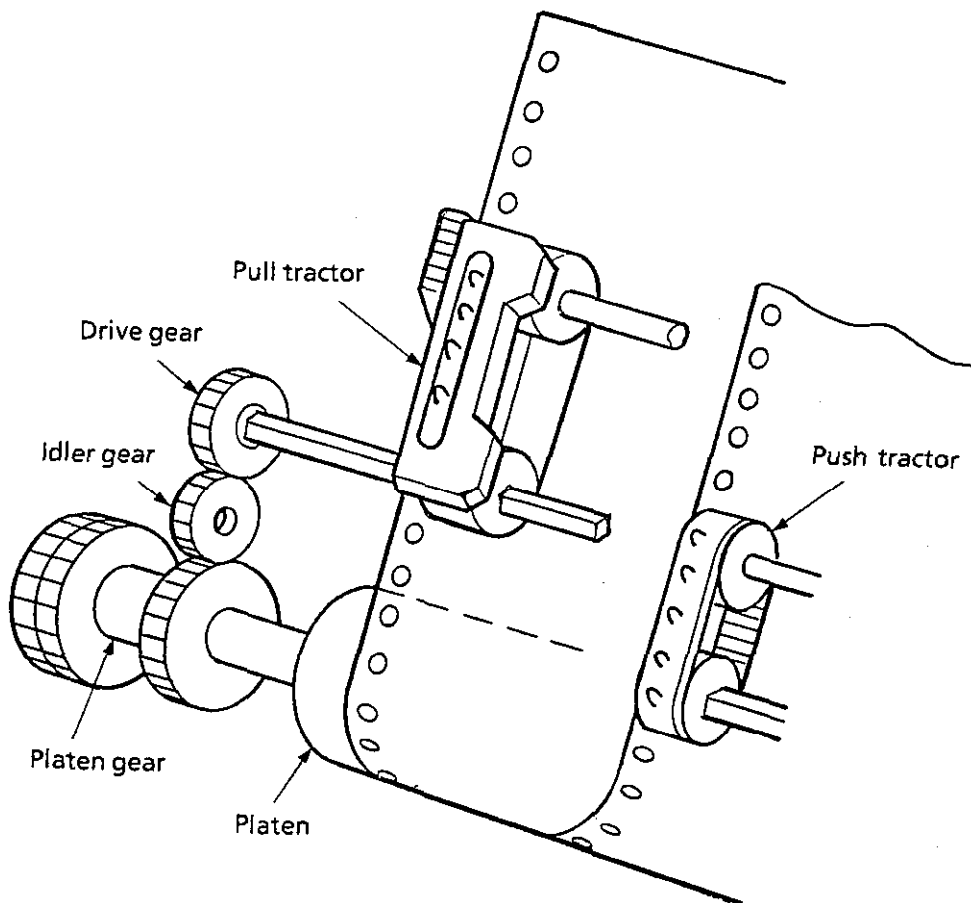

Figure 3-11
(5) Push and pull tractor mechanism (option) (See Figure 3-11.)